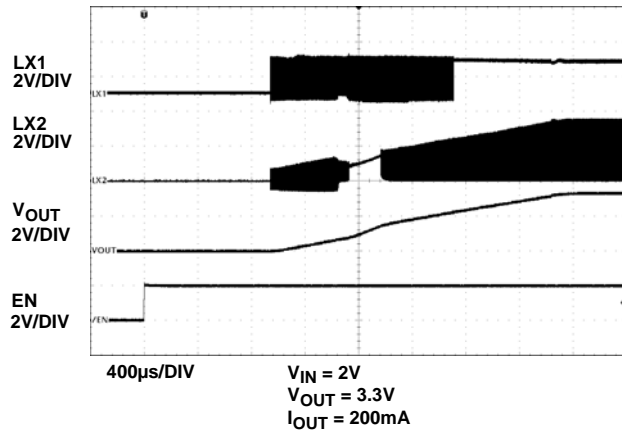
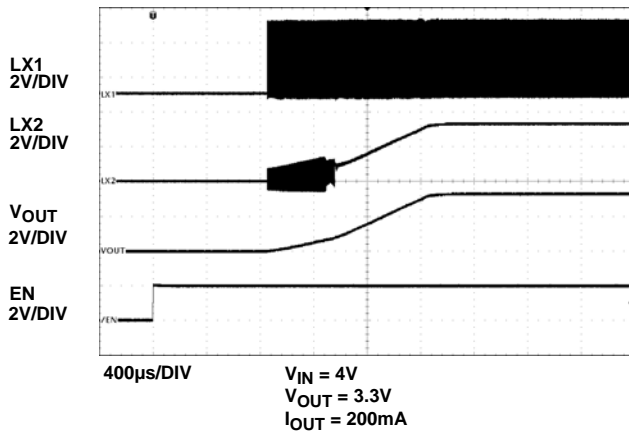

FIGURE 1. ISL9110A START-UP WITH  $V_{IN} = 2V$  and  $V_{OUT} = 3.3V$
FIGURE 2. ISL9110A START-UP WITH  $V_{IN} = 4V$  and  $V_{OUT} = 3.3V$
8. Monitor the output voltage startup sequence on the scope. The waveforms will look similar to that shown in Figure 1 and Figure 2.